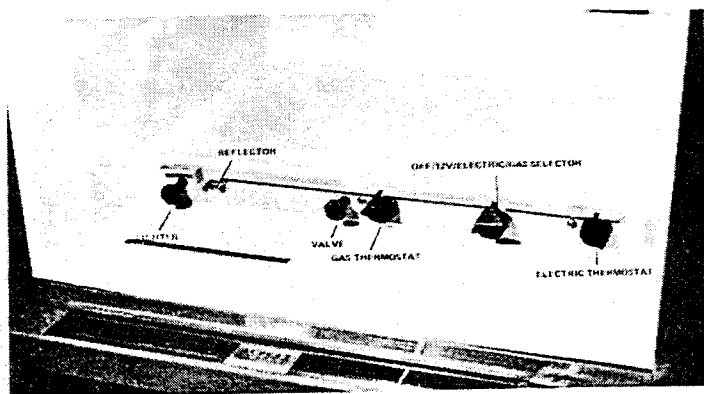

FIG. 26
**LPG OPERATION** — Open the POL valve (FIG. 9A or B). Turn the "Off/12V/Elec/Gas" selector dial to the "Off" position (FIG. 26). Pull out the selector dial and turn it to the "Gas" position. Turn the gas thermostat to setting #4.